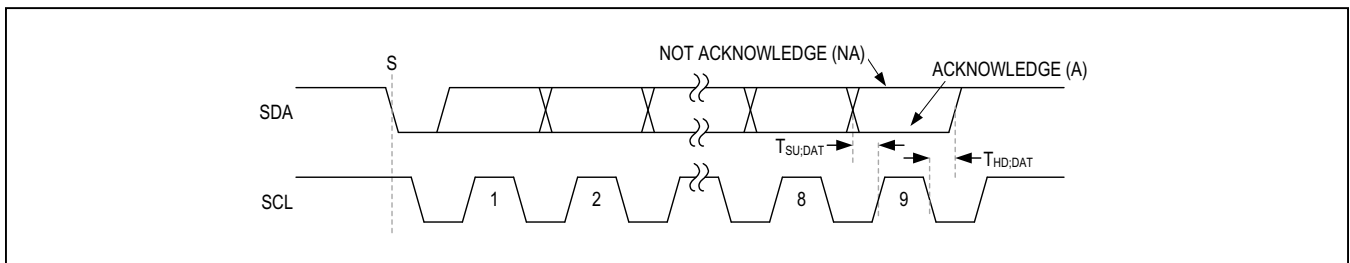

Figure 6. Acknowledge Bit
Both the I²C bus master and the MAX17271/MAX17273 (slave) generate acknowledge bits when receiving data. The acknowledge bit is the last bit of each nine bit data packet. To generate an acknowledge (A), the receiving device must pull SDA low before the rising edge of the acknowledge-related clock pulse (ninth pulse) and keep it low during the high period of the clock pulse. See Figure 6. To generate a not-acknowledge (nA), the receiving device allows SDA to be pulled high before the rising edge of the acknowledge-related clock pulse and leaves it high during the high period of the clock pulse.